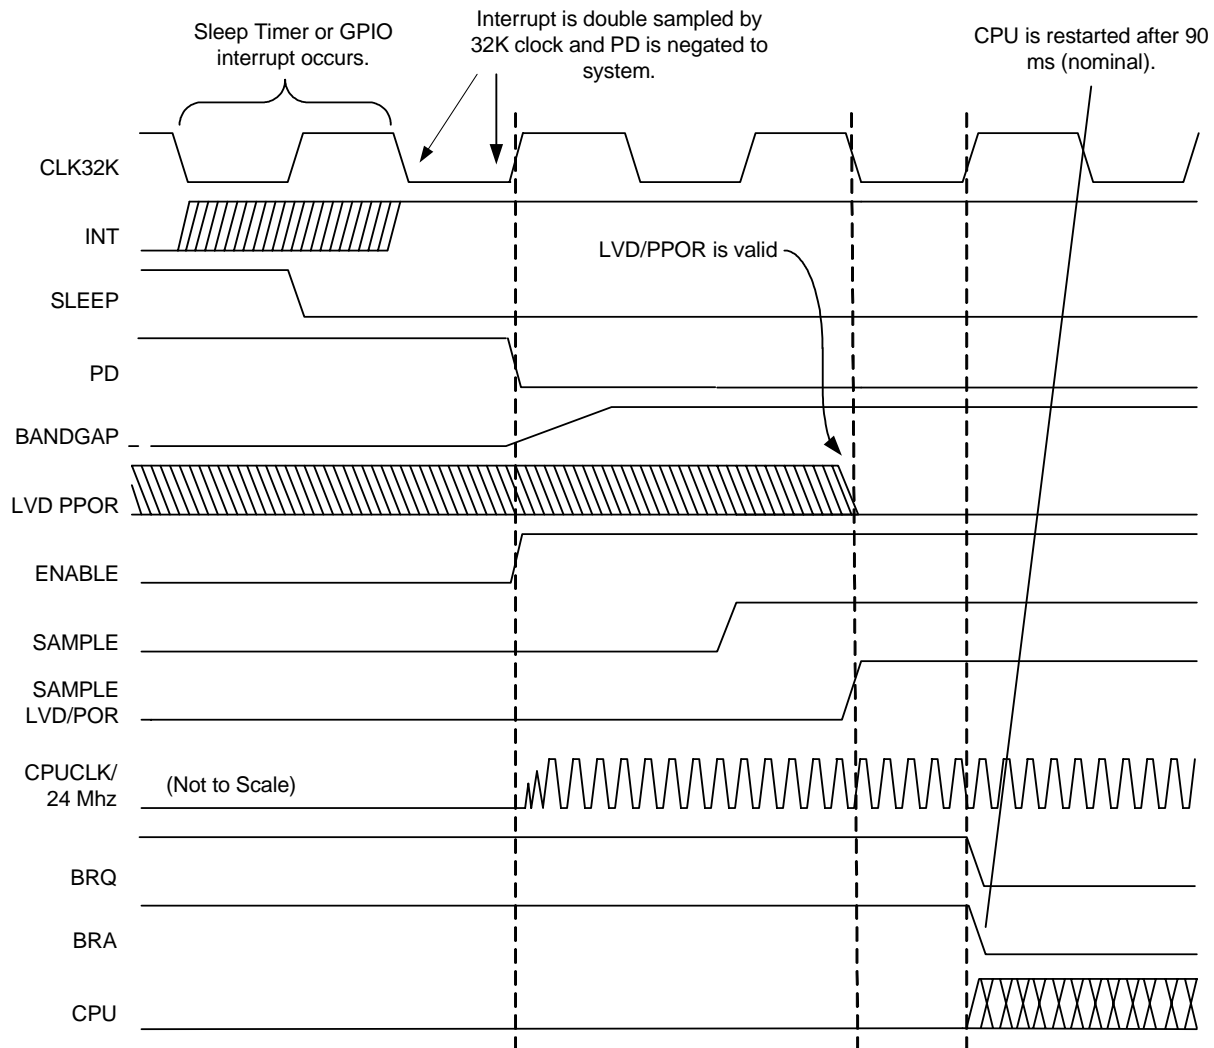

Figure 12-2. Wakeup Sequence
The wake up sequence is synchronized to the 32 kHz clock for purposes of sequencing a startup delay, to allow the Flash memory module enough time to power up before the CPU asserts the first read access. Another reason for the delay is to allow the IMO, Bandgap, and LVD/POR circuits time to settle before actually being used in the system. As shown in Figure 12-2, the wake up sequence is as follows.
4. At the following negative edge of the 32 kHz clock (after about 15 μ s, nominal), the BRQ signal is negated by the sleep logic circuit. On the following CPUCLK, BRA is negated by the CPU and instruction execution resumes. Note that in Figure 12-2 fixed function clocks, such as Flash, IMO, and bandgap, have about 15 μ s to start up.